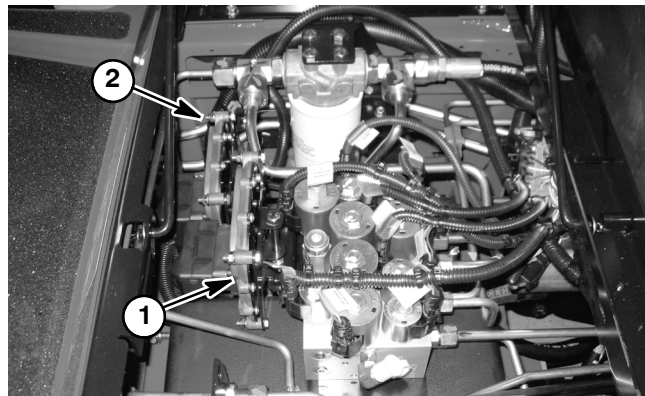

Figure 1
Groundsmaster 4500-D machines use a single Toro Electronic Controller (TEC-5002) to manage machine electrical functions. Groundsmaster 4700-D machines uses two (2) TEC controllers for machine operation (TEC-5002 and TEC-5001). The TEC controllers are attached to a bracket under the operator seat (Fig. 1).